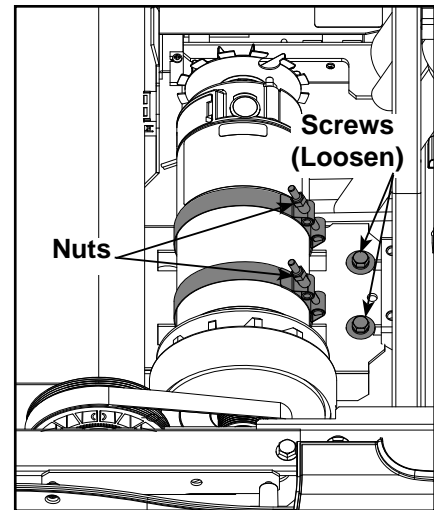

Figure 13
- A. Using a 1/2" socket wrench, loosen (but do not remove) the two screws on the motor saddle. See Figure 13. **NOTE:** *The tension is now released.*
- A. Using 7/16" open end wrench, remove the nut on each motor strap and remove the motor straps from the motor saddle. See Figure 13.